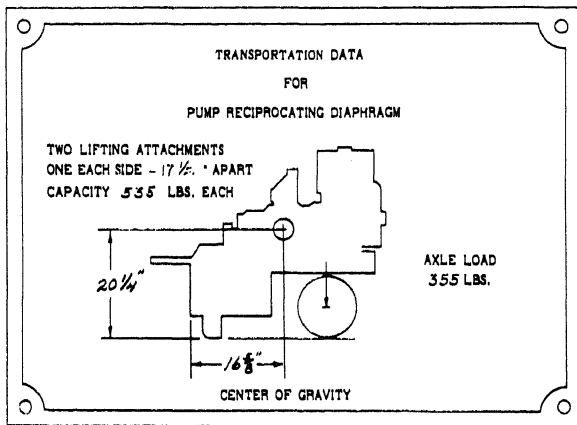

FIGURE 1A
4. Unpacking and inspection - The pump is boxed and secured within the box. Upon unpacking, make a visual inspection for any damage or theft in transit. Manuals are contained in a canvas bag for each pump. If pump is to be lifted, see the transportation data plate (Fig. 1A) for lifting. Lifting "eyes" are provided on each side of the pump frame. Four 10' long sections of 4" diameter hose with two 4" diameter close nipples are contained in one box for each pump.